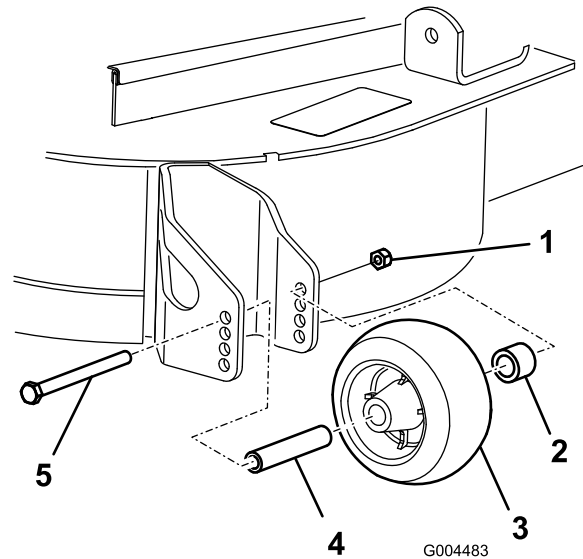

Figure 45
- After adjusting the height-of-cut, adjust the rollers by removing the flange nut, bushing, spacer, and bolt (Figure 45).
- Install the flange nut, bushing, spacer, and bolt (Figure 45).